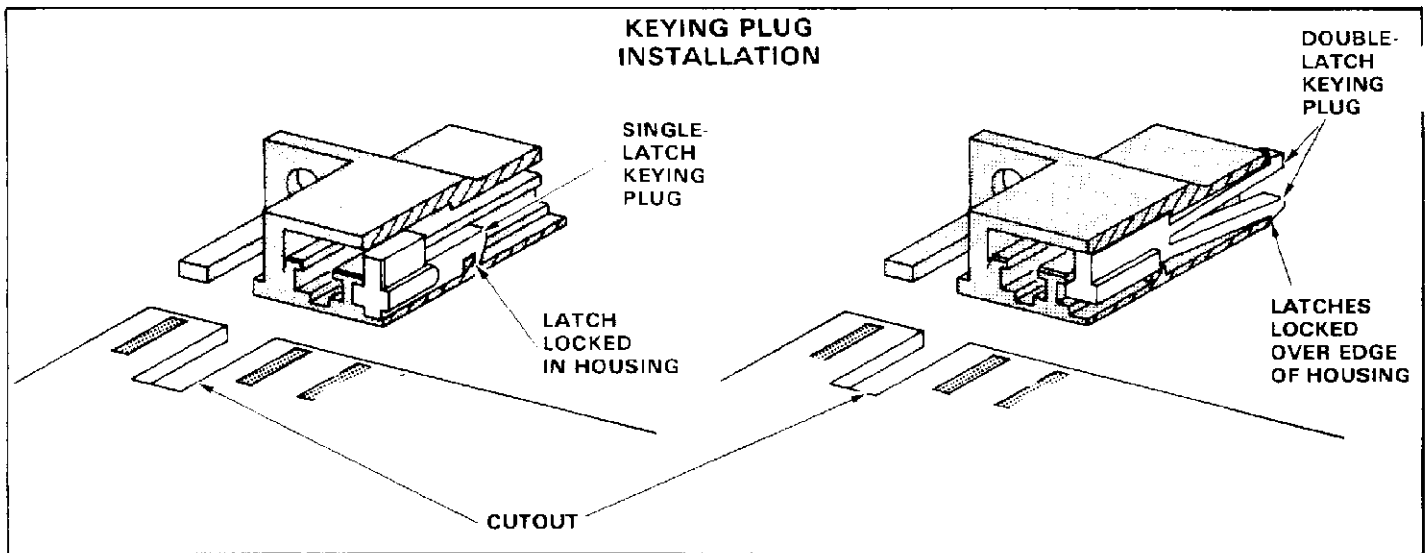

Fig. 4
3. Insert the keying plug straight into the cavity until bottomed, then pull back lightly to be sure the plug is locked in position. See Figure 4.